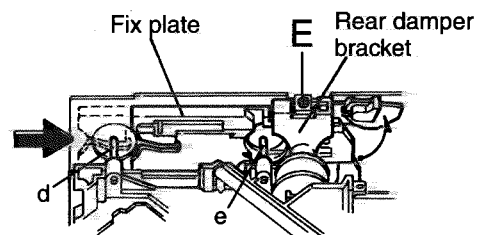
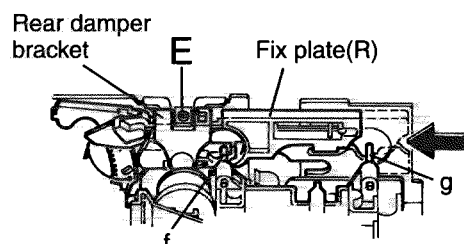

Fig.8
Fig.9
- 2.While shifting the fix places on the right and left Sides respectively to the arrow direction, lower the entire CD mechanism. When the shafts(d , e , f and g ) on both the right and left sides have been set free as shown in Fig.8 and Fig.9,then the assembly can be removed easily.Remove the two screws E retaining the rear damper bracket to make it easier to remove the damper from the rear damper bracket(See Fig.1, Fig.8 and Fig.9).